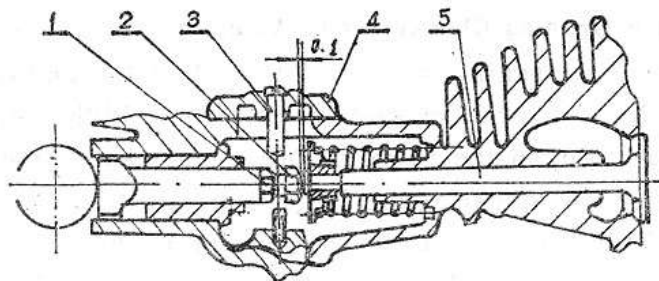
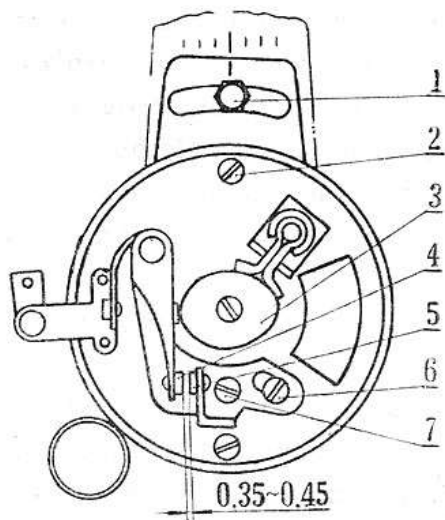
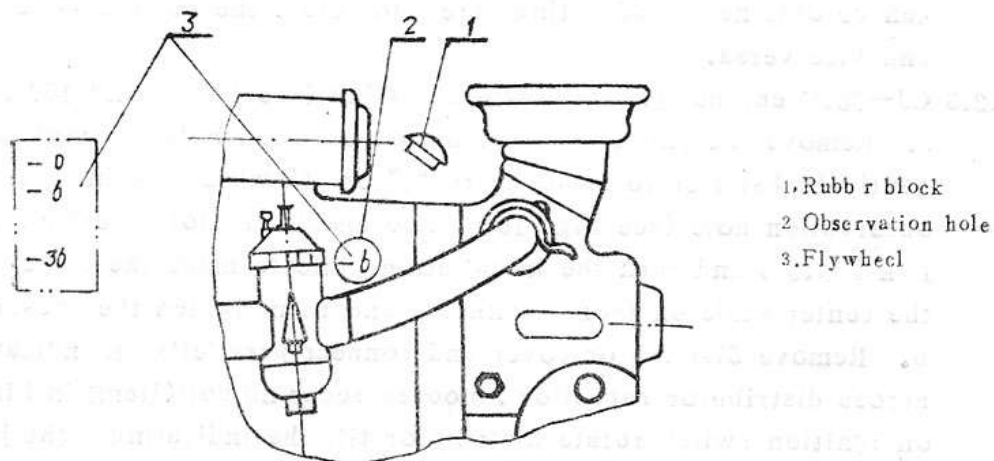

Fig.7 Mixture Valve Adjusting Schematic Diagram
Fig.9 Schematic Diagram of Distributor FDQ—5
Fig . 10
- 4.2.1 Open the valve chamber cover (Item 4 in Fig.7) .
- 4.2.3 Move the adjusting screw (Item 2 in Fig.7) with screw driver and
- 4.2.4 If opening does not meet the requirement, loosen nut (Item 1 in Fig.7) and readjust the opening.
a. Open the valve chamber cover (Fig.7) , remove rubber block (Fig.10) from observation hole in crankcase. apply kickstarter to operate the crank shaft. When inlet valve of left cylinder opens, apply gently kickstarter to make the "O" scale line on flywheel be in the center of observation hole.
and centrifugal ignition advance distributor. It can automatically change ignition angle with the change of engine RPM to get optimum ignition time for the engine. It is installed on top left of front crankcase. Its adjusting methods are as follows (see Fig.9).
4.4.2.3 CJ—750D engine ignition angle adjusting (see Figs 9 and 10) .
a. Remove the rubber block from observation hole in crankcase, apply gently kickstarter to make mark "6" on flywheel be in the center of observation hole (see Fig. 10) . Loosen distributor pressing nut (Item 1 in Fig.9) and turn the installation plate to make the scale align with the center scale on front crankcase and then tighten the pressing nut.
b. Remove distributor cover and connect parallelly an indicating light across distributor capacitor . Loosen securing bolt(Item1 in Fig.9), turn on ignition switch, rotate distributor till the indicating light just comes on (at this moment the platinum contacts are just setting apart to the extent of a paper-thick clearance) . Tighten the securing bolt, operate